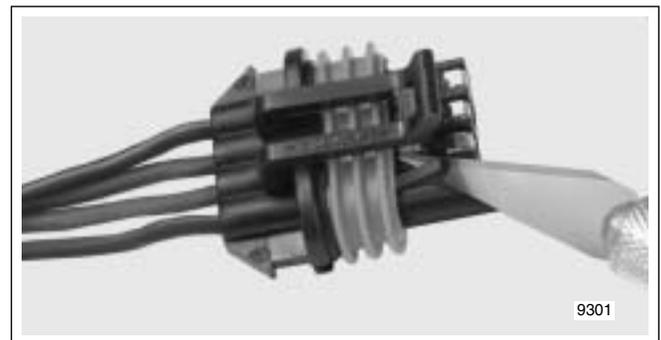

Figure 8-18. Gently Pry Away Tang
4. Using a thin flat blade, like the unsharpened edge on an X-Acto knife, gently pry tang outward away from terminal, and then tug on wire to back terminal out wire end of chamber. Do not pull on wire until tang is released or terminal will be difficult to remove. See Figure 8-18.